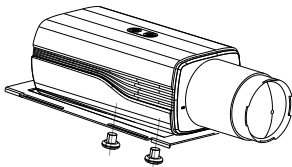

Figure 2-2 Fix the Back-plane in the housing
3. Remove the back-plane from the camera housing. Attach the camera to the back-plane with supplied screws. As shown in Figure 2-2.